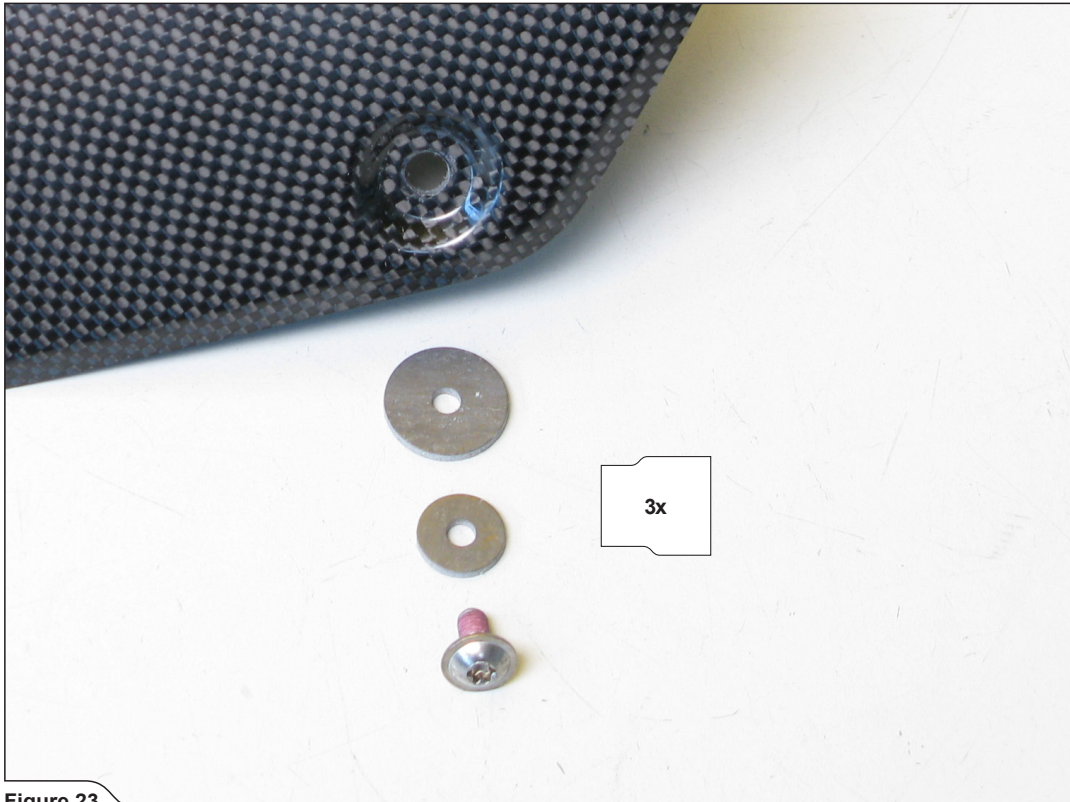

Figure 23
5. Install the bolts and heat resistant washers onto the new Akrapovič carbon fiber heat-shield from Akrapovič installation kit (Figure 23).